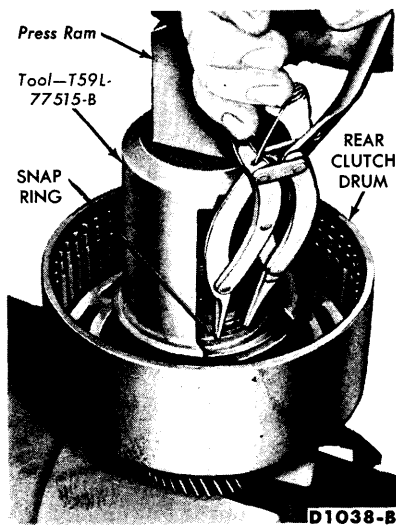

FIG. 30—Rear Clutch Spring Snap Ring Removal
2. Compress the spring in an arbor press with the tool shown in Fig. 30 and remove the snap ring.